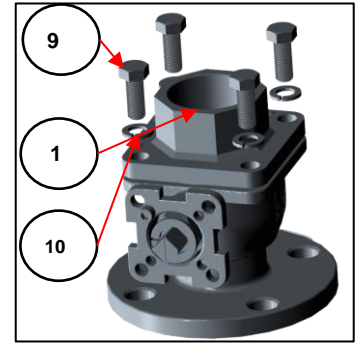

Figure 4-3
- 4.1.4 Remove the four (4) socket hex-head cap screws (item 9) and lockwashers (item 10) from the end cap (Item 1). (Figure 4-3)